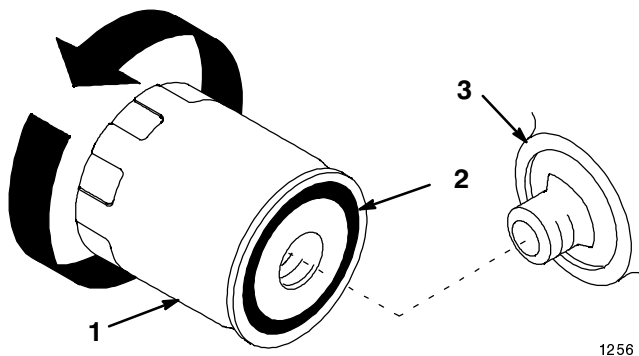

Figure 53
1. Remove the transaxle filter (Fig. 53).
2. Wipe the filter adapter gasket surface (Fig. 53).
3. Apply a thin coat of new oil to the rubber gasket on the replacement filter (Fig. 53).
4. Install the replacement transaxle filter to the filter adapter. Turn the filter clockwise until the rubber gasket contacts the filter adapter, then tighten the filter an additional 3/4 turn (Fig. 53).